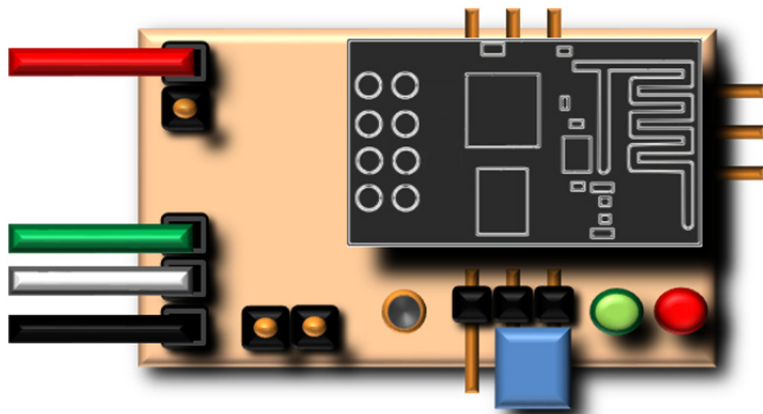

FIGURE 9 – Adapter board connections; the jumper in G0 SEL (blue) is now connecting GPIO 0 to GND
1. - Connect the ESP to the PC via the adapter board and the USB to TTL cable as shown in **figure 9**; remember to position the G0 SEL jumper so GPIO 0 is connected to ground before plugging to the PC.